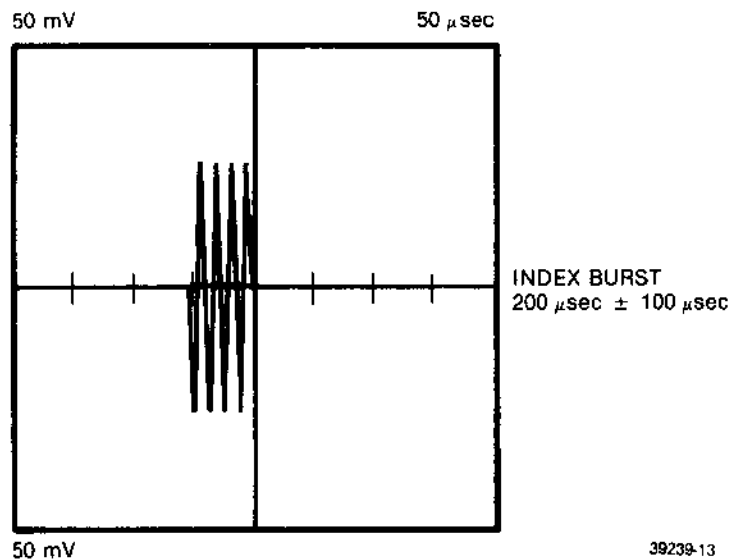

FIGURE 5-10. INDEX BURST
- f. Observe timing between start of sweep and first data pulse. This should be $200 + 200/-100 \mu\text{sec}$. If timing is not within tolerance, continue on with adjustment. See figure 5-10.